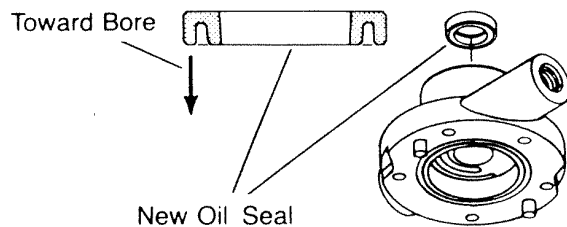

Fig. 49
**92** Lubricate inner surface of new oil seal and install in charge pump housing as shown in Figure 49 with the rubber lip toward the bore. Make sure seal is completely seated.